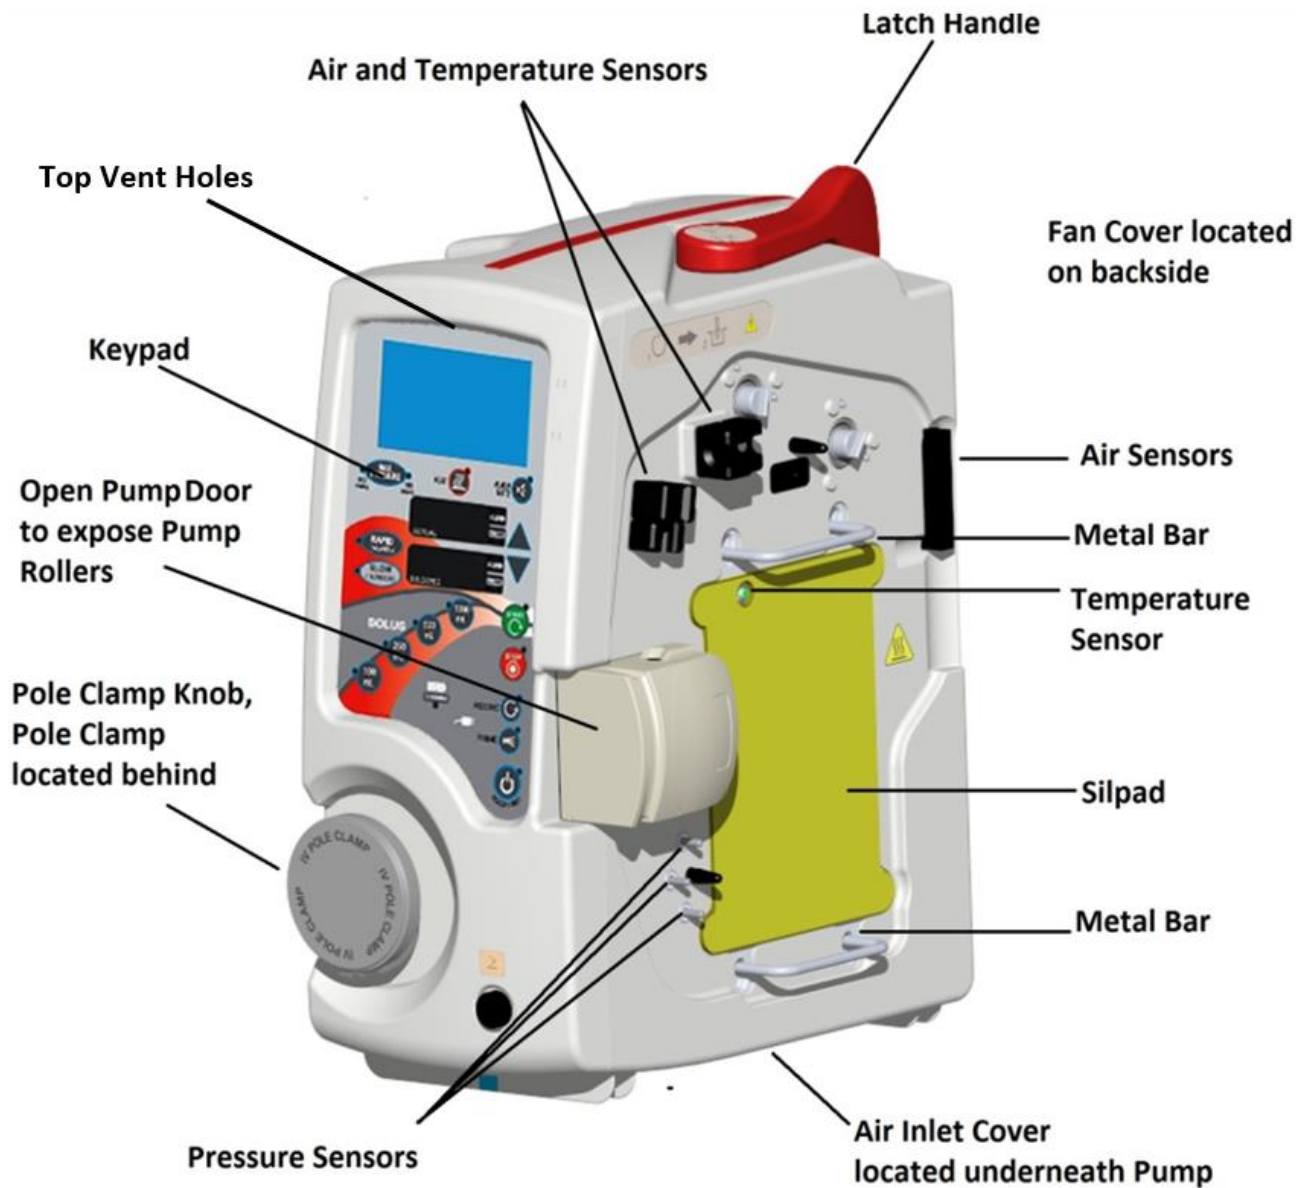

Figure 3: Schematic for Cleaning and Maintenance
3. Clean and gently wipe all surfaces of the Cassette-Infuser interface, including the sensors, silpad, roller pump door, and roller pump rollers indicated in Figure 3. Extreme care should be taken not to damage these components. Allow the silpad to dry completely before the next use.